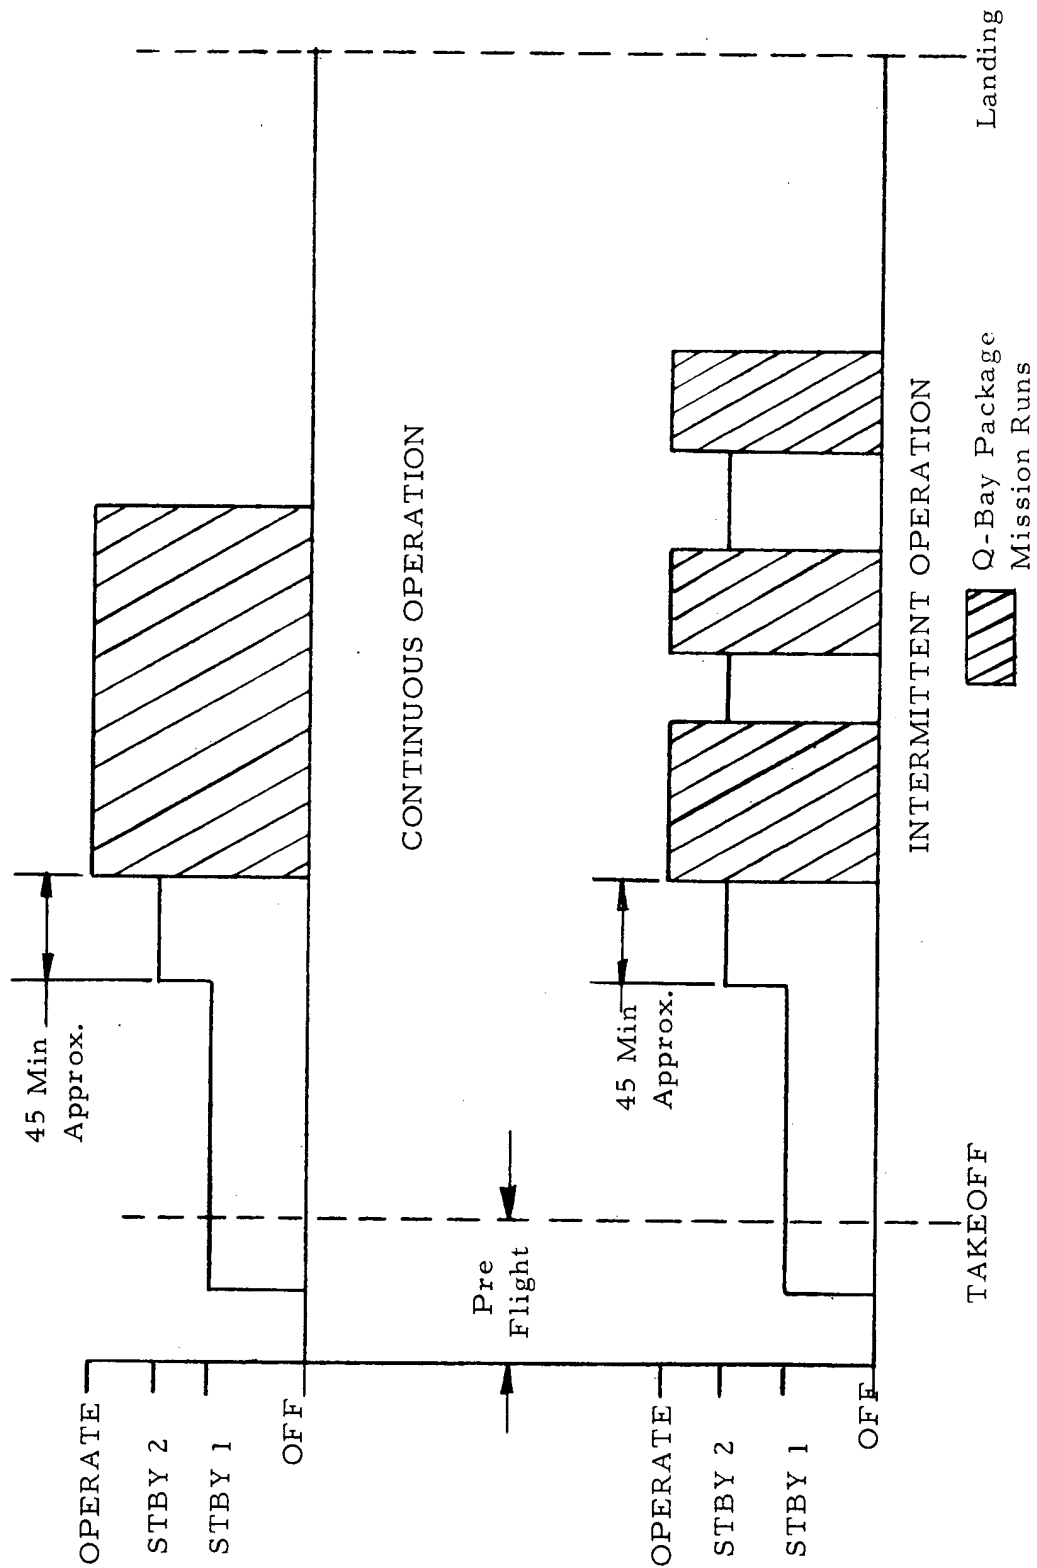

Figure 1-9. Typical Type I Mission Profiles
- 1-24. Two typical Type I mission profiles are shown in Figure 1-9. Mission 1 shows continuous operation of the package for a segment of the entire mission. Mission 2 shows intermittent operation of the package for arbitrary portions of the mission. In practice, the package will always be placed in the standby 1 mode at some time during the final pre-flight check and shall remain there until standby 2 switch is selected. Specific flight instructions will state the exact sequence of operation of the status switch for the standby 2 and operate modes, as shown in Figure 1-9.